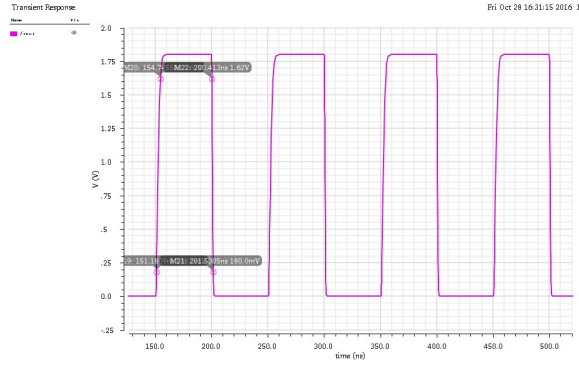

Fig. 7. Transient analysis of V_{OUT}
10) transient analysis of V_{OUT} is shown in Fig 7.
11) Calculate rise time τ_{rise} , fall time τ_{fall} from the Fig 7.